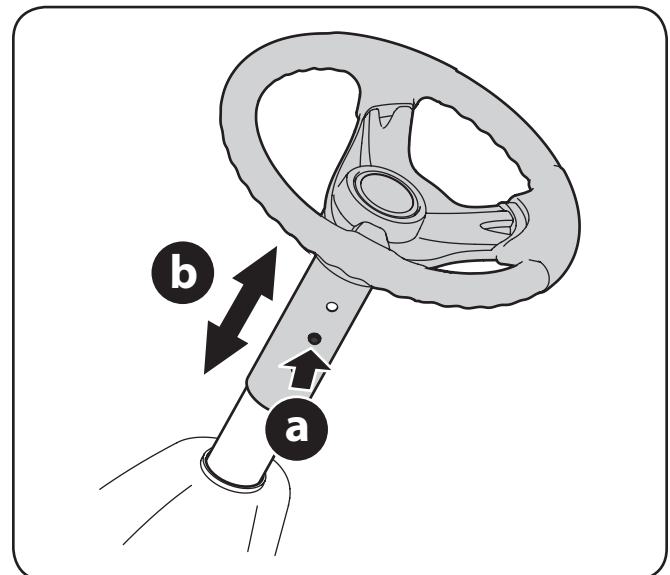

Figure 5-1
2. Push the button (a) on the steering column and raise or lower the steering wheel (b) to the desired position. See Figure 5-1.